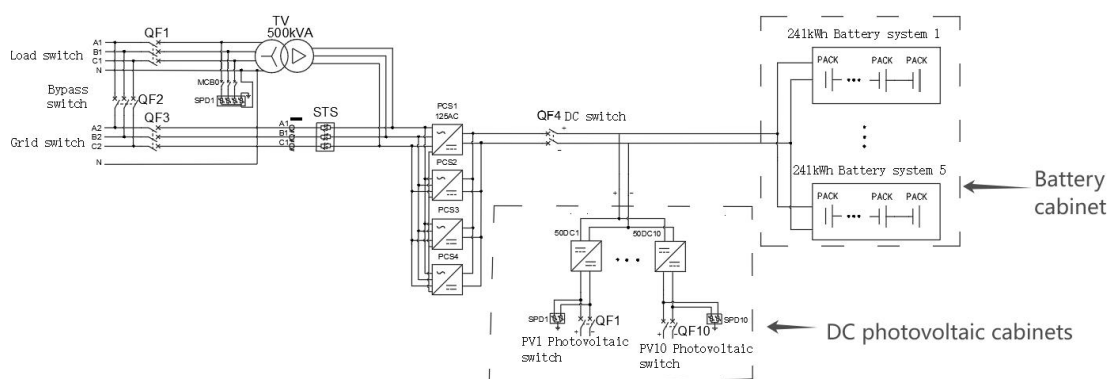

Figure 2.1 Electrical primary diagram
**Instructions:** Figure 2.1 shows the system scheme with off-grid connection, isolation transformer, and photovoltaic input, the configuration of different projects is different, the line is slightly different, and the actual shipment of the attached drawings shall prevail.